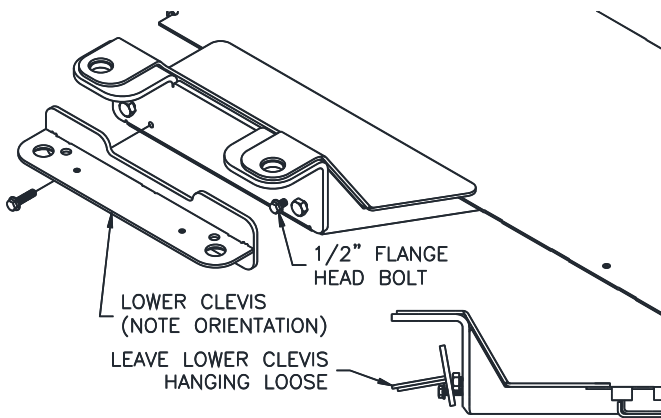

Fig. 2 ATTACHING LOWER CLEVIS PLATE
2. Remove the two (2) 1/2" Flange Head Bolts from the Main Structure Bolster and use them to loosely secure a Lower Clevis Weldment to each Bolster as shown in **Fig. 2**.